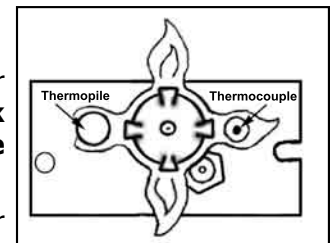

Figure 38: Pilot Burning.
4. Open door. Wait five (5) minutes to clear out any gas. Close door. If you smell gas including near the floor, STOP! Follow "B" in the above safety information. Leak test all gas joints with soapy water **NEVER USE AN OPEN FLAME FOR LEAK TESTING**. If you don't smell gas go to next step.
7. Push the gas control knob in fully and hold. A BATTERY operated electronic igniter will light the pilot. Keep knob depressed for about 30 seconds after pilot is lit. **Check that the pilot flame has fully engulfed the thermocouple assembly (see Figure 38)**. Release knob. If pilot goes out, repeat steps 4 through 6.